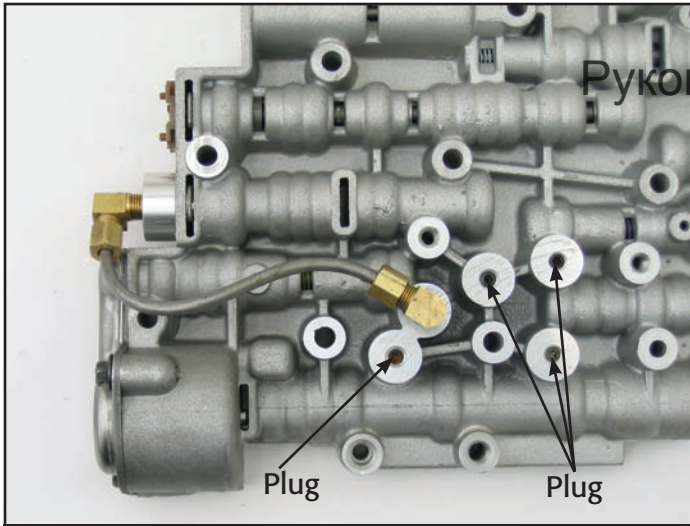
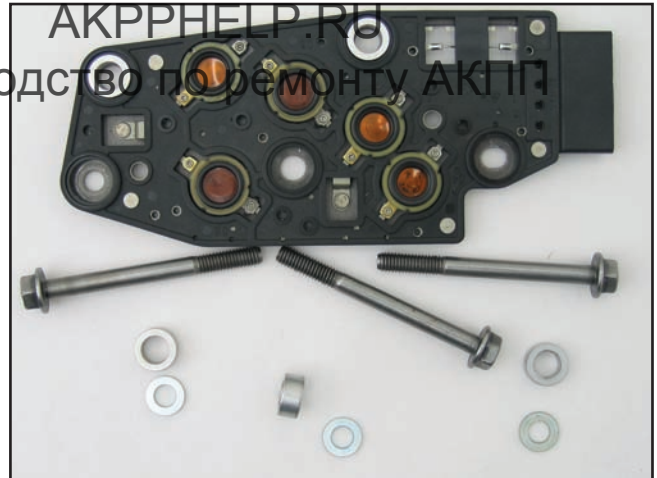

Figure 13:
Figure 14:
- 4) Using 3/16" steel tubing, fabricate a tube to connect the two fittings (figure 13). Try to form the tube into the shape of an "S" so it's easier to install.
the pressure switch manifold with Allen head set screws, because you won't be using the manifold any more (figure 13). Because the pressure switch manifold is 0.300" thick, you must use shorter bolts to replace the three that went through the manifold. Or you can do what I did and pop three of the inserts out and add washers to make up the difference in length (figure 14).